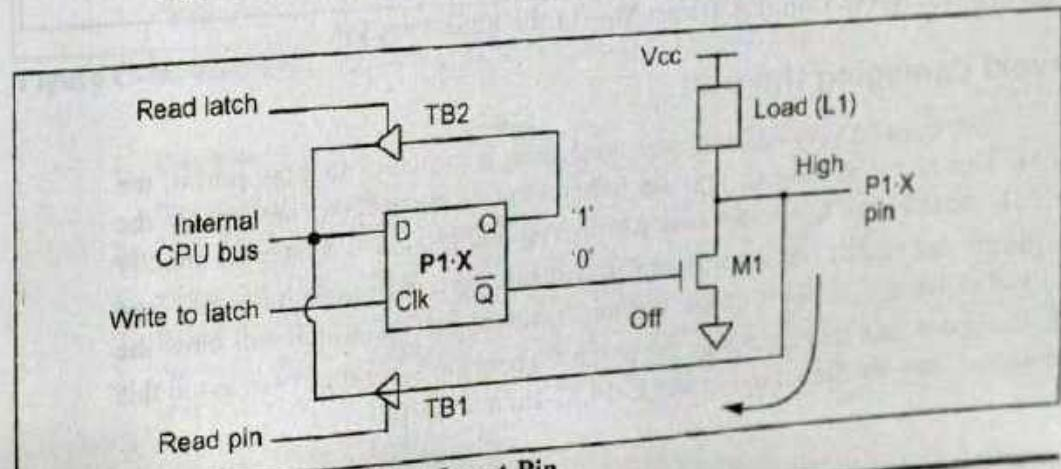

Figure C-11. Reading "High" at Input Pin
1. As can be seen from Figure C-11, a 1 written to the port bit is written to the latch and the D latch has "high" on its Q. Therefore, $Q = 1$ and $\bar{Q} = 0$.
4. When reading the input port in instructions such as "MOV A, P1" we are really reading the data present at the pin. In other words, it is bringing into the CPU the status of the external pin. This instruction activates the read pin of TB1 (tristate buffer 1) and lets data at the pins flow into the CPU's internal bus. Figures C-11 and C-12 show high and low signals at the input, respectively.